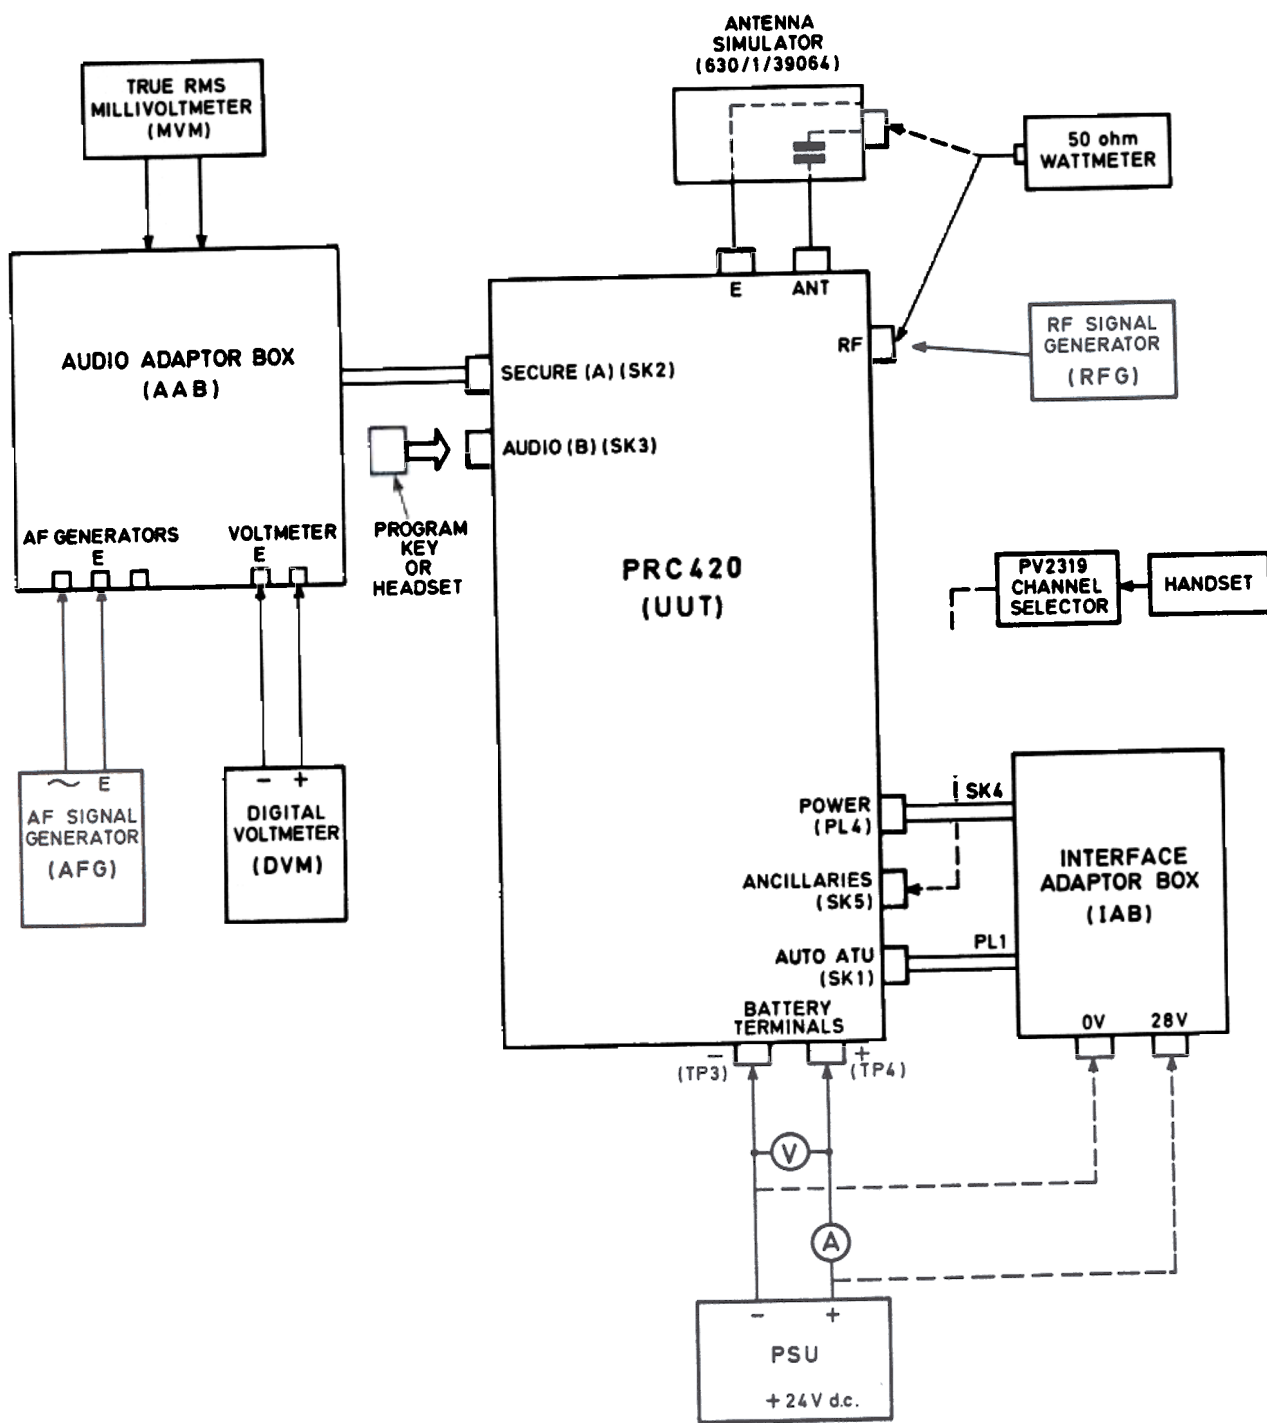

Fig 1 Schematic of connections for performance tests
7. A schematic drawing showing the radio connected to the test equipment is given in Fig.1. Prepare the radio for test as follows: